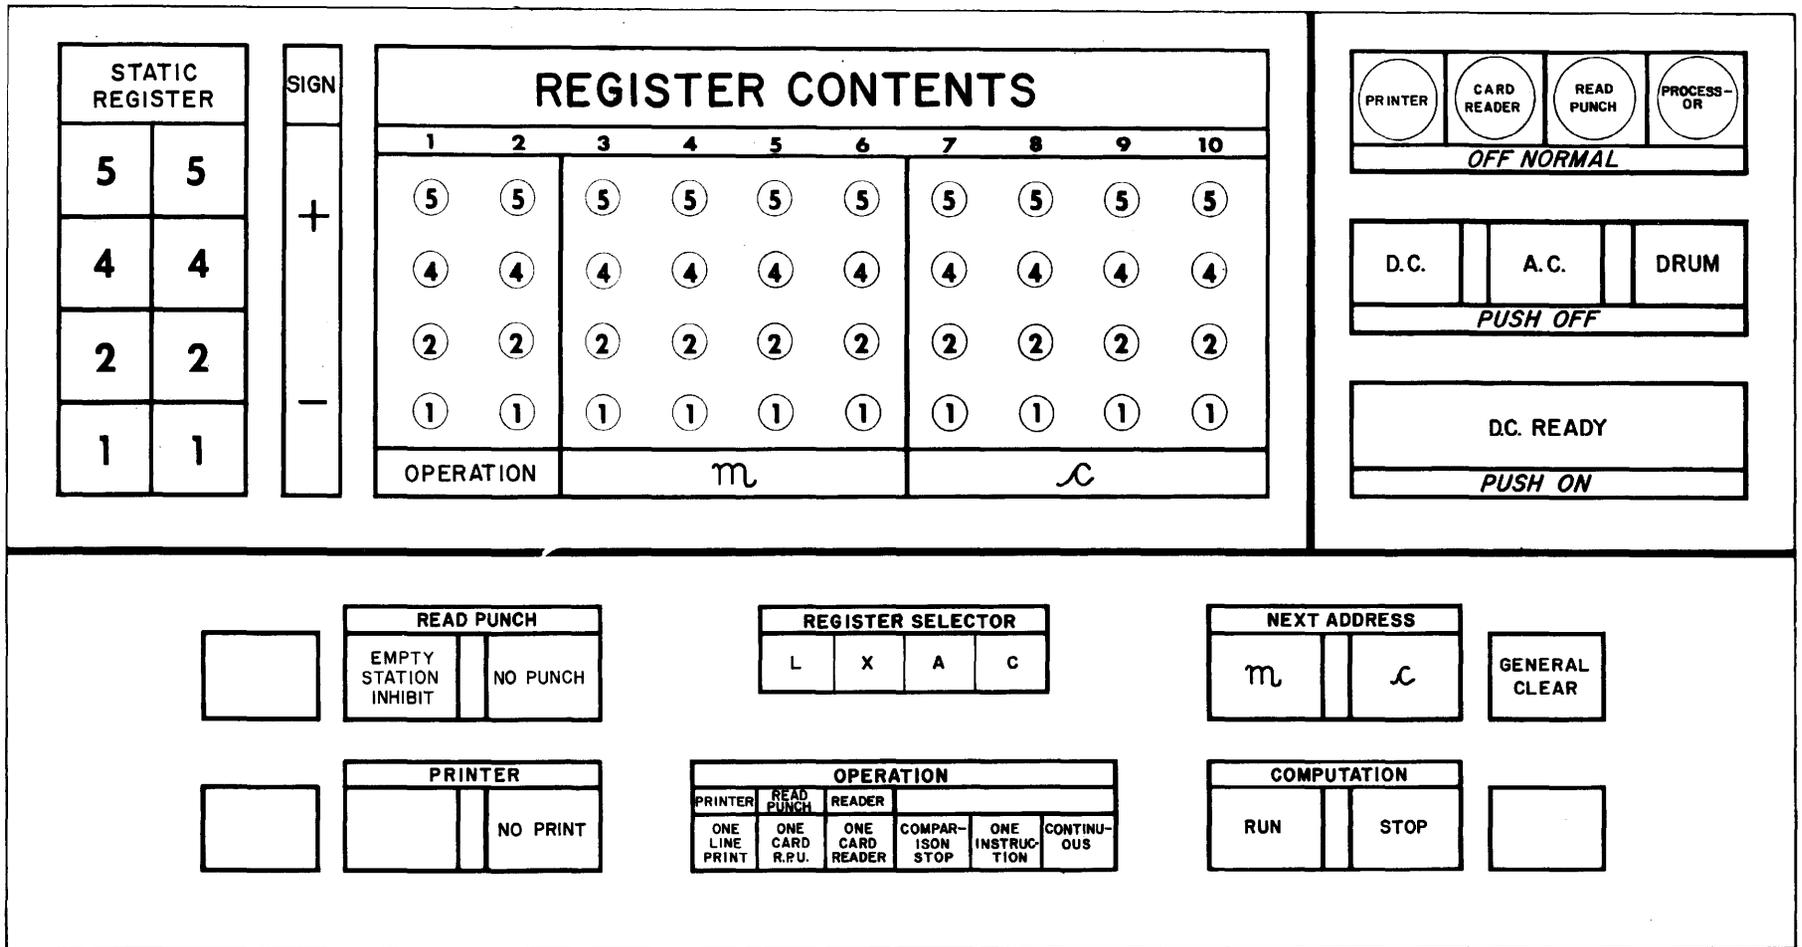

Figure 3-2 Operators Panel
The operators panel (Figure 3-2) is the main control panel of the computer. It contains most of the controls and indicators necessary to operate the computer. Each pushbutton and indicator is described in the following paragraphs.
96 CHECK - depress to inhibit operation of buffer transfer check circuit. Lights white when activated (alternate action). (Not shown on Figure 3-2).
ALERT 96 CHECK - lights to indicate that a buffer transfer was missed on a 96 instruction. (Not shown on Figure 3-2).
**CONTINUOUS** - when this pushbutton is depressed the processor proceeds on a continuous basis. Lights green when activated. This pushbutton and the five other pushbuttons under the heading **OPERATION** in Figure 3-2 are all interlocked. Only one can be activated at one time. When any one is depressed, it releases the pushbutton previously depressed. (alternate action).